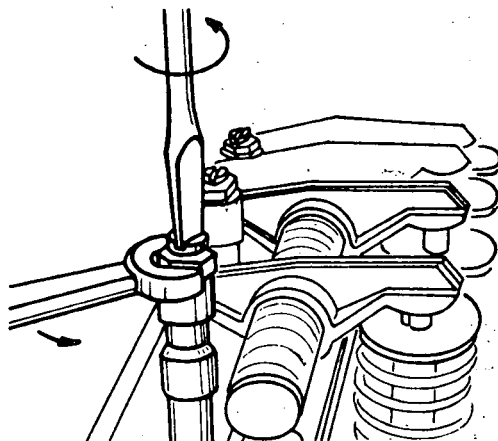

Fig. 1
- b) *Loosen the rocker arm adjusters (fig. 1).*